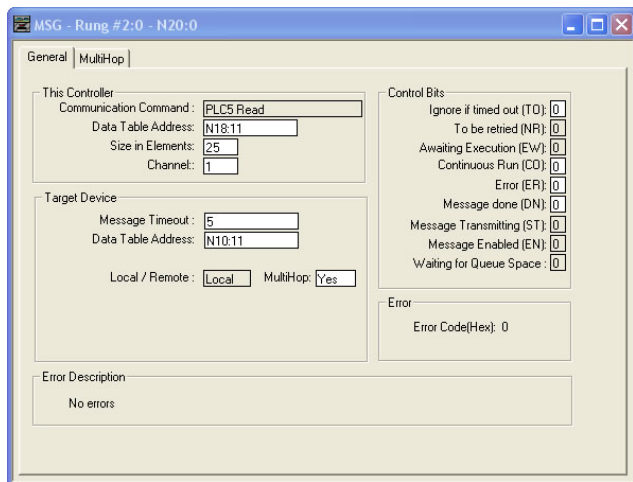

Figure 103: MSG Configuration, "General" Tab
- Upon hitting the <ENTER> key while in the "Control Block" entry box, the MSG Properties dialog box should appear (or it can be opened by clicking on the "Setup Screen" button at the bottom of the MSG instruction). Refer to Figure 103.